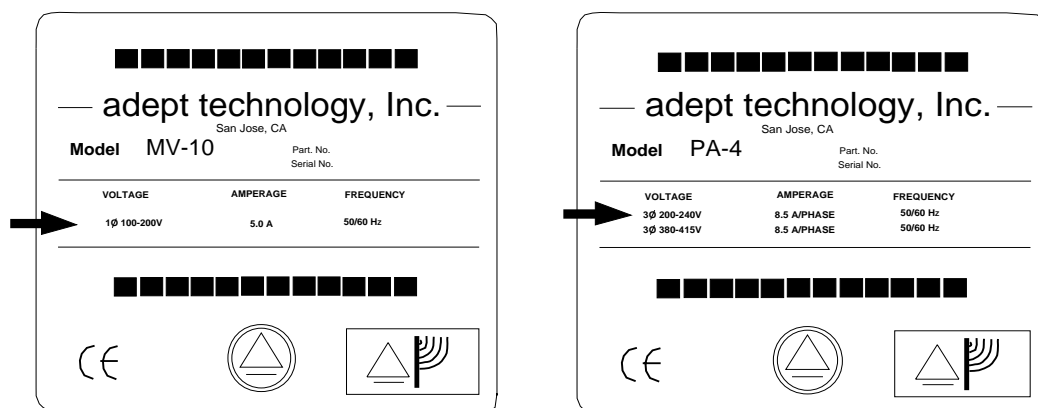

Figure 4-22. Power Labels
4. Clearly mark or alter the ID label, on the side of the PA-4 chassis, to show the new voltage configuration (see Figure 4-22 on page 80).
4. Clearly mark or alter the ID label, on the side of the PA-4 power chassis, to show the new voltage configuration (see Figure 4-22 on page 80).